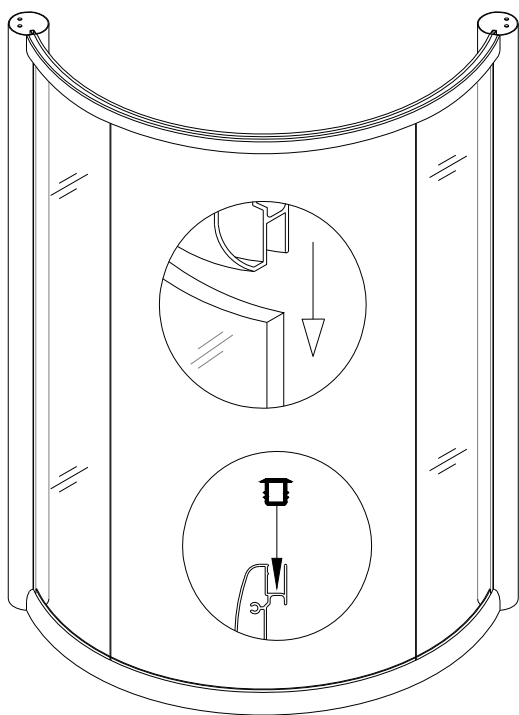

Fig 5
6. Place the top guide rail on the top of the stationary glass. Use **Round head screws ST4.2x30 (15)** to secure the top guide rail to the vertical posts. Insert the white seal gasket into the middle part of the guide rail slot. See Fig 5 for details.